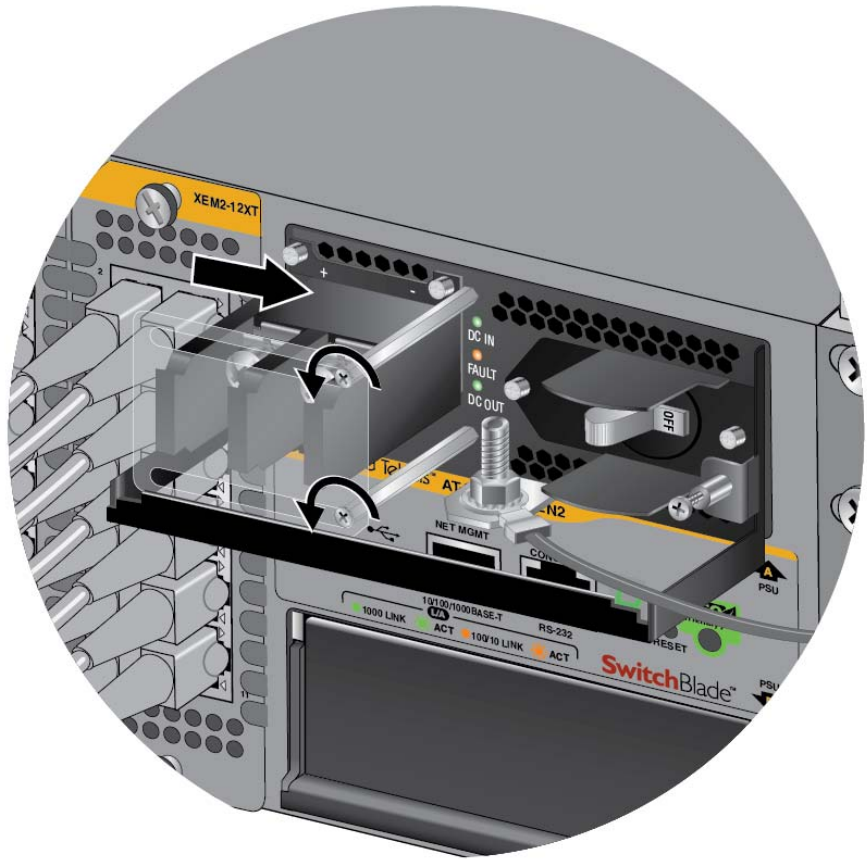

Figure 70. Opening the Plastic Cover
4. Use a #1 Phillips-head screwdriver to loosen the two screws on the plastic cover over the positive and negative terminals on the power supply and slide the cover to the right, as shown in Figure 70 on page 105. You may need to lift the locking handle slightly to access the bottom screw.
2. Use a #1 Phillips-head screwdriver to loosen the two screws on the plastic cover over the positive and negative terminals on the power supply and slide the cover to the right, as shown in Figure 70 on page 105. You may need to lift the locking handle slightly to access the bottom screw.